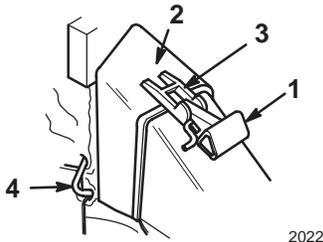

Figure 35
2. Ensure that the discharge door handle is fully forward (door closed) (Fig. 35).
Note: In Figure 35, the brush guard is not shown for the purpose of clarity.
3. Fit the bag door opening over the discharge tunnel opening as shown in Figure 35.
2. Lift the door latch until it clears the bag notch and move the discharge door handle forward (Fig. 35).